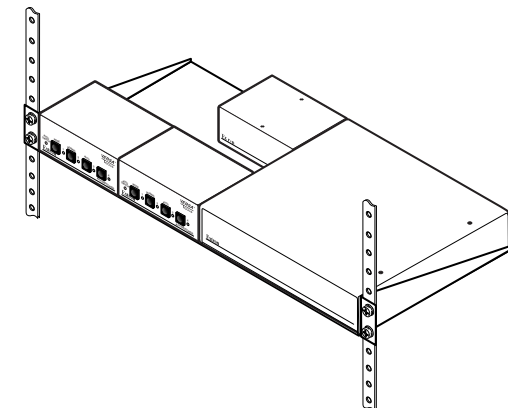

Figure 2-2 — MSW mounted on a standard rack shelf
- RSU 129 1U 9.5" Universal Rack Shelf Kit (part #60-190-01) (figure 2-2)